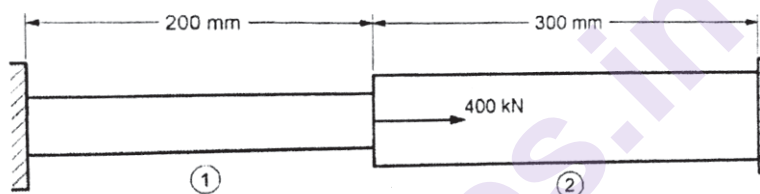

**Figure 1**
- Q3)** a) An axial load  $P = 300 \text{ kN}$  is applied on a stepped steel bar as shown Figure 1. [6]